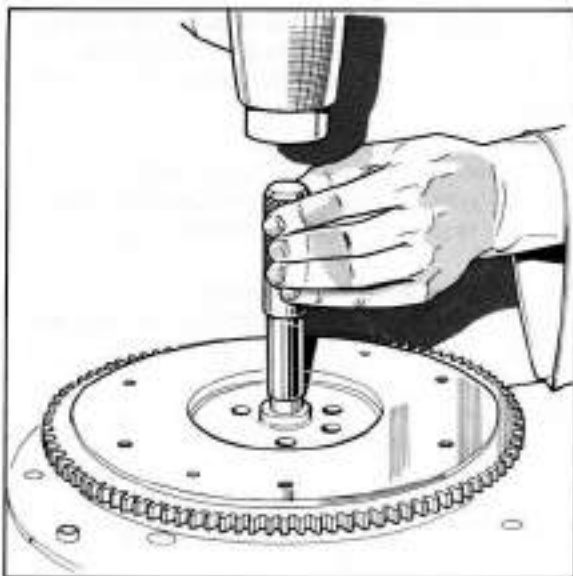

Figure 2 Fitting flywheel bearing
- 7 Check the flywheel needle bearing for wear. If wear is evident knock out bearing and fit a new one using tool No. RT7485 (see Figure 2).